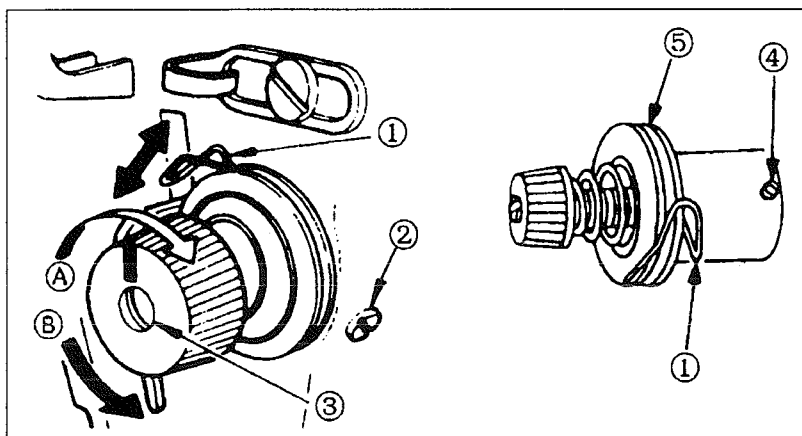

Fig.15
9. THREAD TAKE-UP SPRING (Fig.15)